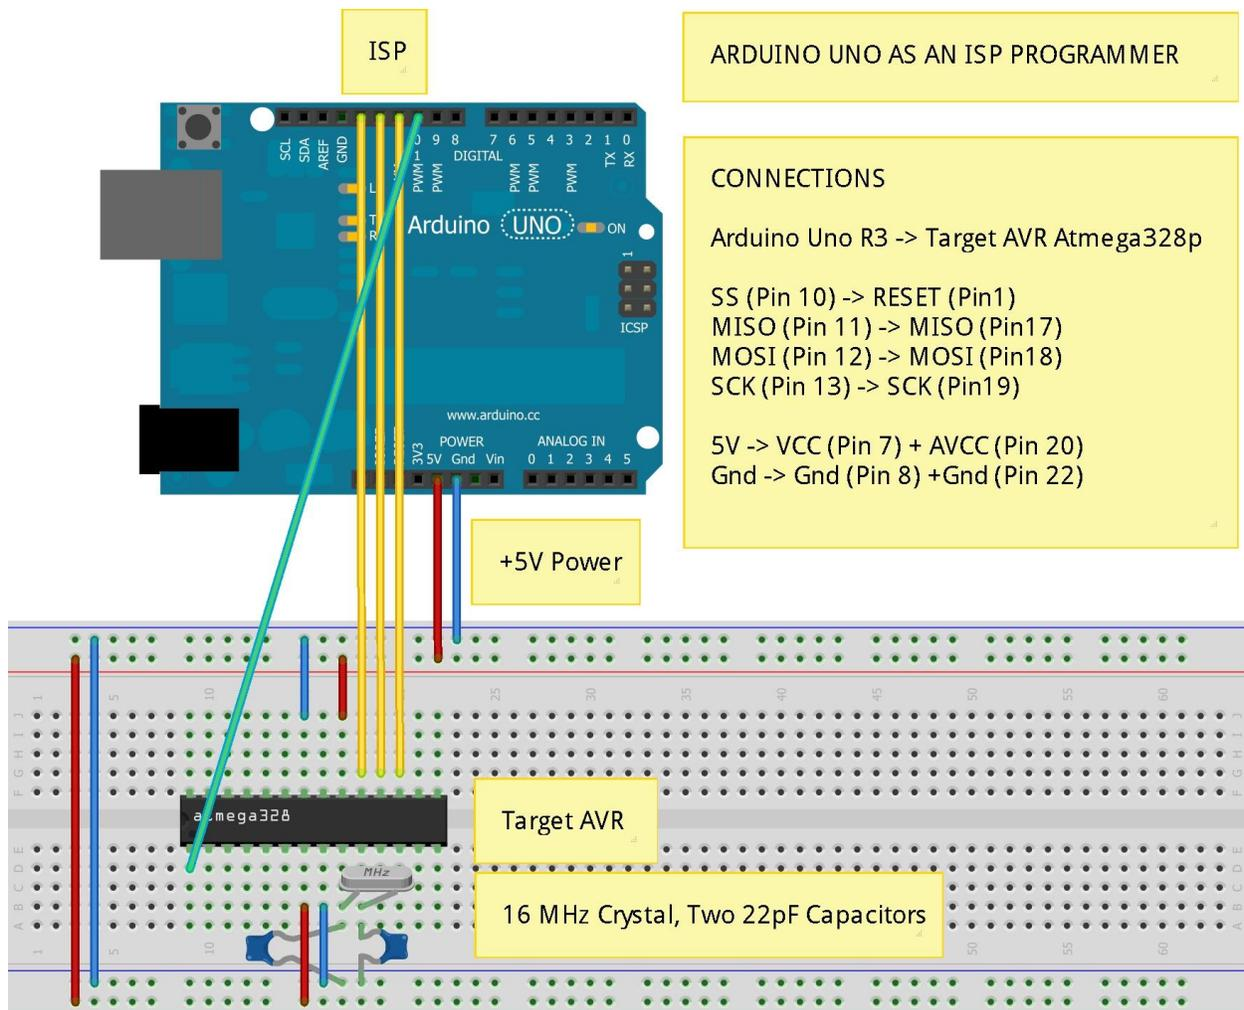

Fig. 1
- 2) Connect the **ISP pins** of **Arduino Uno** to the **Target AVR** as indicated in the Fig.1.
(2) Connect the ISP pins of Arduino Uno to the Target AVR as indicated in Fig.1
As a note: The crystal and its two capacitors have to be as close to **XTAL1, XTAL2** pins of the **Target AVR** as possible (like in Fig. 1). If you position them in a different configuration, far from the processor, running wires between capacitors, crystal and the AVR, the newly formed oscillator can refuse to work and **avrdude** will throw the error “Invalid device signature” when you try to program the microcontroller.
At this moment, it is supposed that **Arduino Uno** is already loaded with **ArduinoISP**, connected to the **PC** with an **USB** cable and all wires, between the **Target AVR** and **Arduino Uno** acting as an **ISP** programmer, are in their place as in Fig. 1.